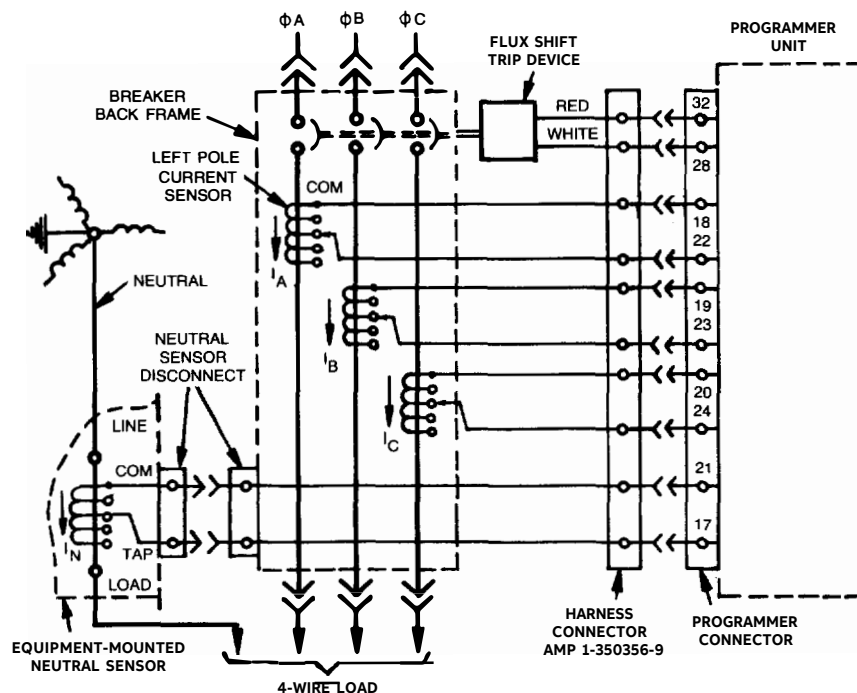

Figure 6-3 Cabling Diagram-MicroVersaTrip With Ground Fault On 4-Wire Load
4. On ground fault breakers serving 4-wire loads, check that the neutral sensor is properly connected (see cabling diagram Figure 6-3). In particular,